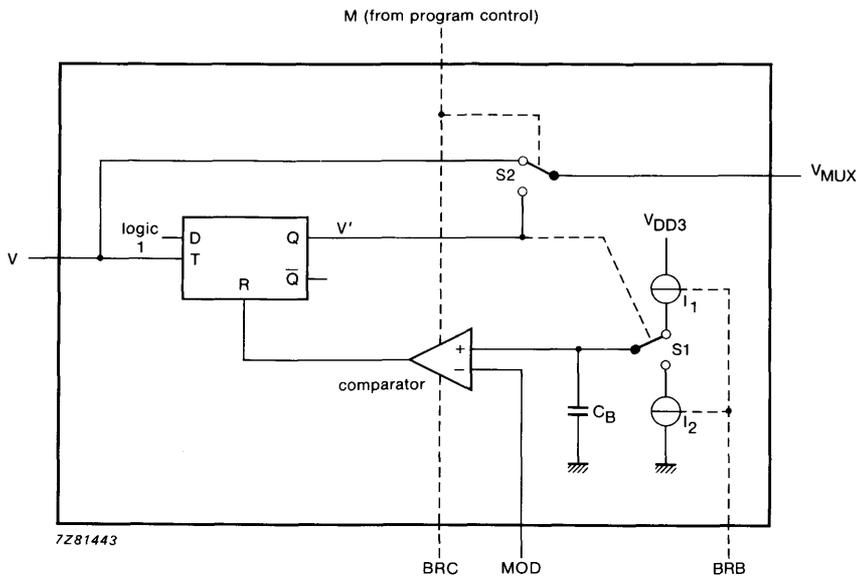

Fig. 10 Simplified block diagram of the phase modulator.
**Phase modulator** (see Fig. 10)